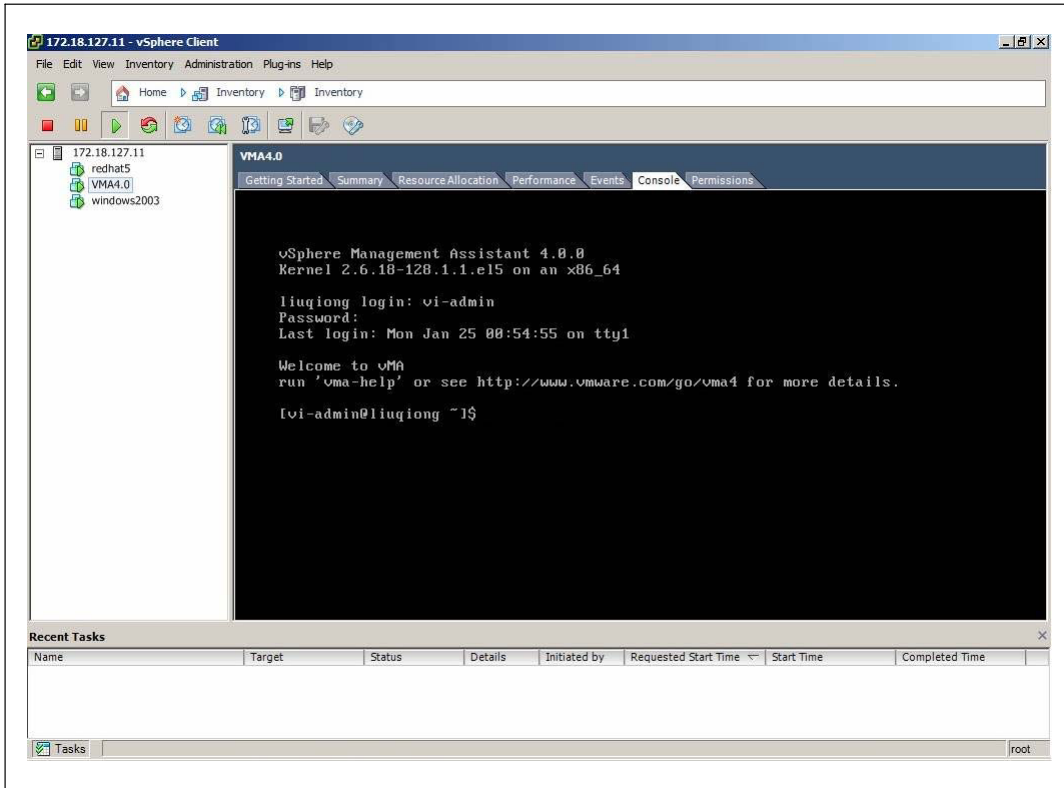

Figure 120. Console Window – Log In
- 3 Log in to the guest operating system from the virtual machine console (see Figure 120).